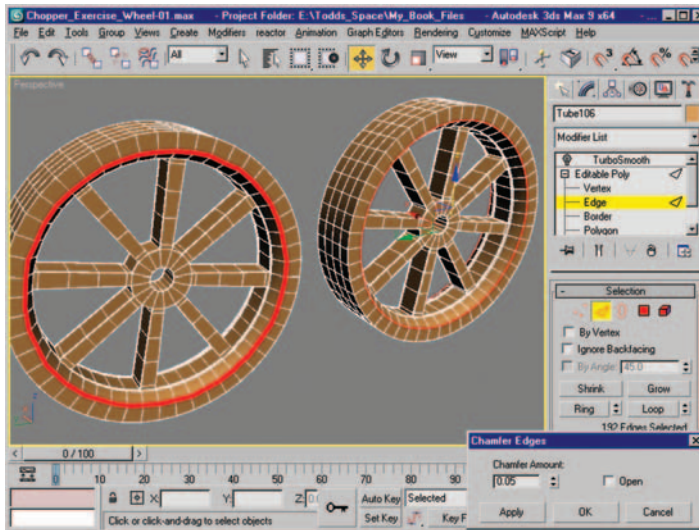

Figure 8.107 Two edge-loop selections (left) and four edge loops after using Chamfer settings on the selection (right).
18. At the Edge subobject level, select the two edge loops seen in Figure 8.107 (left) and use the Chamfer settings with a Chamfer Amount of 0.05 to create four edge loops as seen in Figure 8.107 (right).